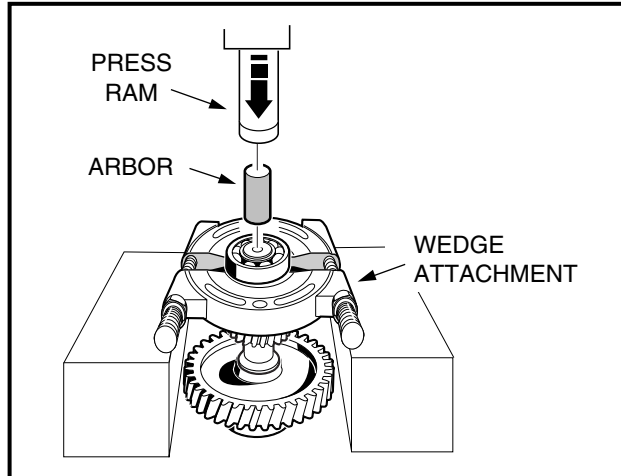

Figure 7-22 Remove Bearing
1. Place a bearing puller wedge attachment (CCI P/N 1012812) between bearing (41) and shaft/pinion gear (59) (**Figure 7-16, Page 7-9**), then press bearing off shaft (**Figure 7-22, Page 7-14**). See following **CAUTION**.